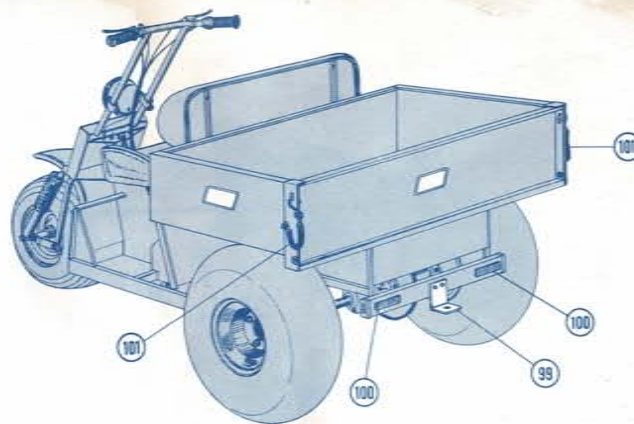

Figure 5
22. Attach No.(99) trailer hitch to rear of frame using two 3/8 x 1 3/4 cap screws, two 3/16" thick Snowco washers, and two 3/8 lock nuts. Position Snowco washers to inside of frame. (See Figure 5.)
23. Attach No.(100) red reflectors to rear of machine in location desired (See Figure 5.)